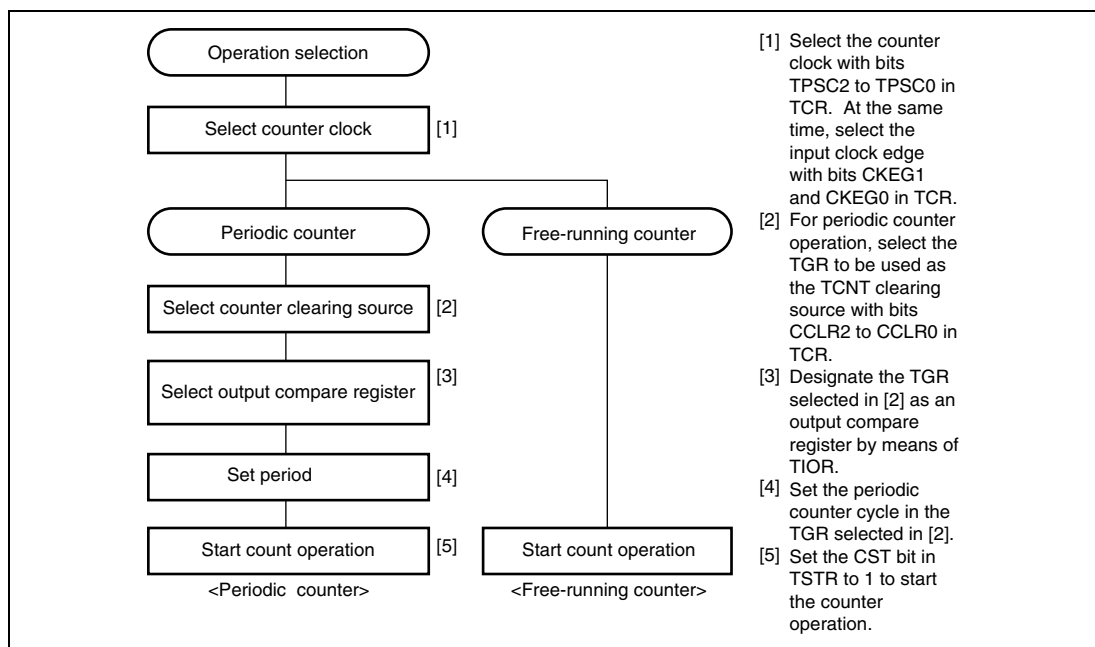

Figure 9.6 Example of Counter Operation Setting Procedure
1. Example of count operation setting procedure Figure 9.6 shows an example of the count operation setting procedure.